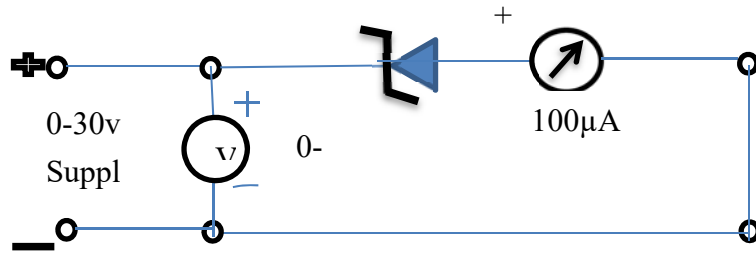

Fig .6(a)
- v. Plot a graph between voltage and current for reverse characteristics as shown in fig 6 (c).